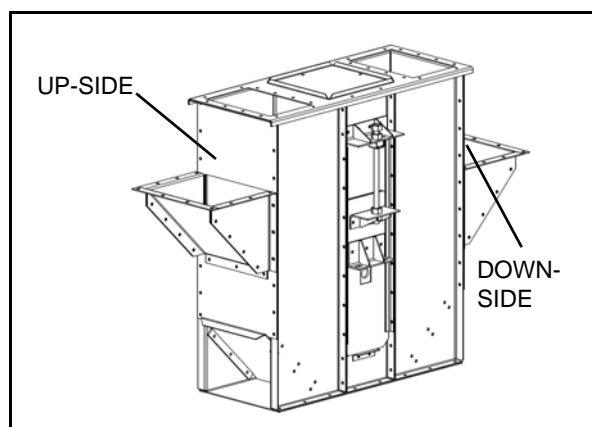

Figure 3.8
3. Mount the inlet hopper(s) on the up-side or down-side of the boot, or on both sides, if required (Figure 3.8). It is always best to locate the bottom of the inlet hopper no lower than the center of the boot pulley. Elevator capacity may be reduced if the inlet hopper is located improperly.